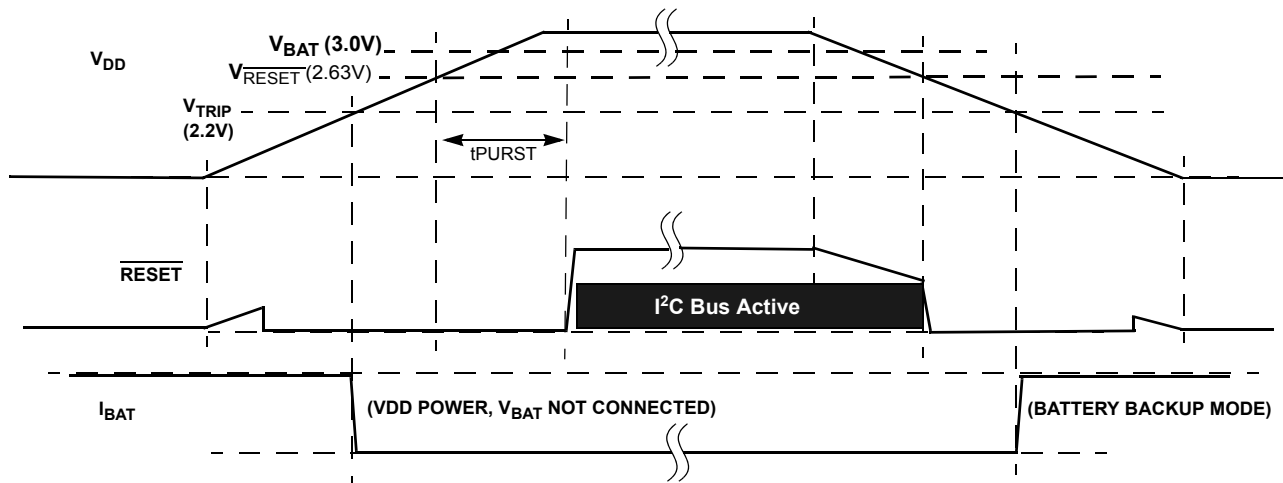

FIGURE 29. EXAMPLE RESET OPERATION IN MODE A OR C
- **Mode A** - In this mode, selection bits indicate a low  $V_{DD}$  switchover combined with I2C operation in battery backup mode. In actuality the  $V_{DD}$  will go below  $V_{RESET}$  before switching to battery backup, which will disable I2C ANYTIME the device goes into battery backup mode. Regardless of the battery voltage, the I2C will work down to the  $V_{RESET}$  voltage (see Figure 29).
- **Mode D** - In this mode, the selection bits indicate switchover to battery backup at  $V_{DD} < V_{BAT}$ , and no I2C communications in battery backup. This mode is unique in that there is I2C communication as long as  $V_{DD}$  is higher than  $V_{RESET}$  or  $V_{BAT}$ , whichever is greater. This mode is the safest for guaranteeing I2C communications only when there is a Valid  $V_{DD}$  (see Figure 29).